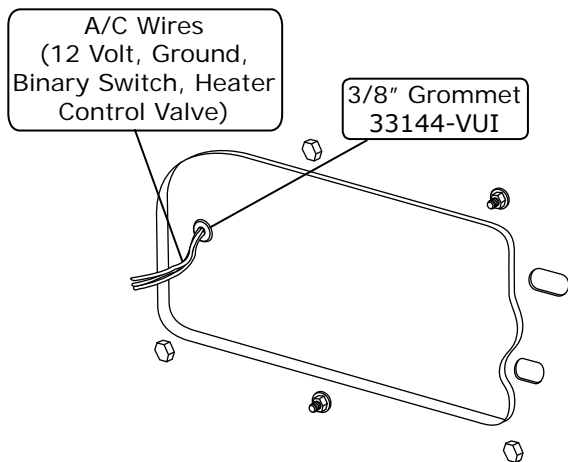

Figure 17
2. Route the A/C wires (12 volt/ground/binary switch/heater control valve) through the 3/8" grommet as shown in Figure 17, below.